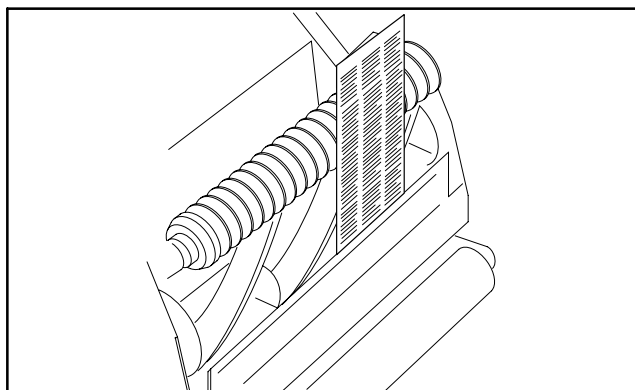

Figure 10
1. Rotate cutting unit backward to gain access to reel and bedknife (Fig. 10).
3. Insert a 1" (25 mm) wide piece of newspaper perpendicular to the bedknife, and then rotate the reel slowly in the mowing direction to see if the reel cuts the paper - do this on both ends of the bedknife (Fig. 10). If the paper does not cut cleanly, tighten the bedknife adjusting knob a maximum of 2 clicks, and check to see if paper is cut cleanly.